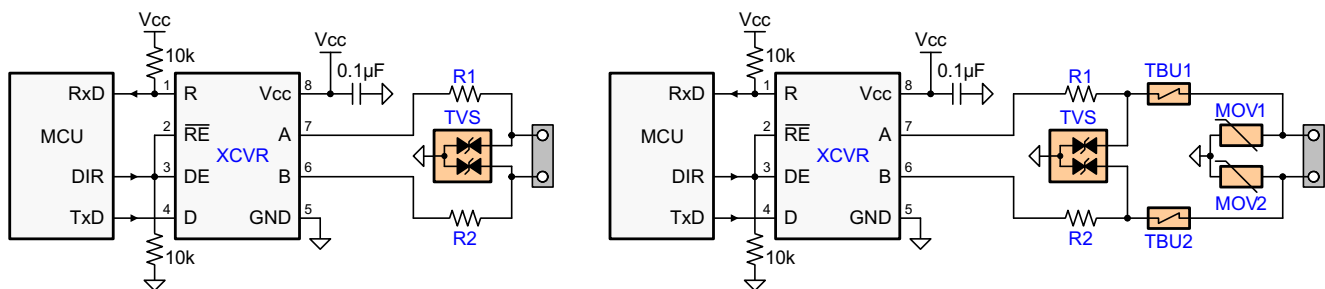

Figure 22. Transient Protection Against ESD, EFT, and Surge Transients
Figure 22 suggests two circuit designs providing protection against surge transients. Table 1 presents the associated bill of material.
While the transient protection is similar to the one in Figure 22 (left circuit), an additional high-voltage capacitor is used to divert transient energy from the floating RS-485 common further towards Protective Earth (PE) ground. This is necessary as noise transients on the bus are usually referred to Earth potential.